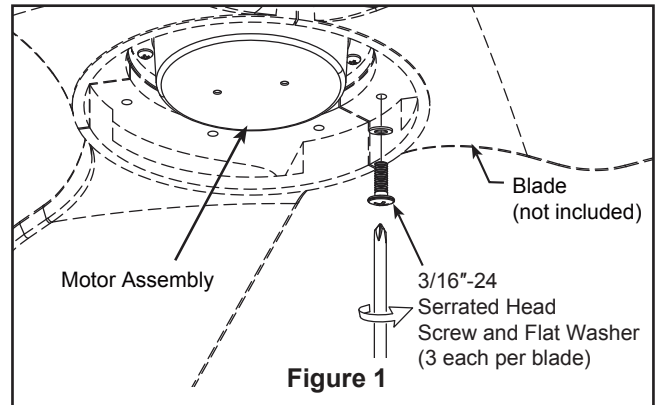

Figure 1
1. Assemble canopy by rotating key slot in canopy over shoulder screw in hanger bracket, taking care not to pinch the wires. Tighten shoulder screw. Fully assemble and tighten second shoulder screw that was previously removed. (Figure 1)
1. Secure the three blades using the 3/16"-24 serrated head screws with flat washers through the holes located on the bottom of the motor assembly. (Figure 1)
1. **IMPORTANT:** Using a full range dimmer switch (not included) to control fan speed will damage the fan. To reduce the risk of fire or electrical shock, do not use a full range dimmer switch to control the fan speed. (Figure 1)